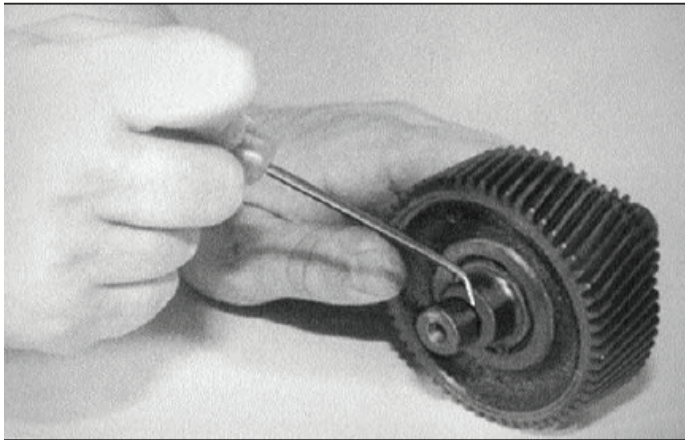

Figure 7-22. Removing O-rings from Intermediate Shaft & Gear
20. Remove O-rings (10) at each end of intermediate shaft on bearing shoulders. See Figure 7-22.